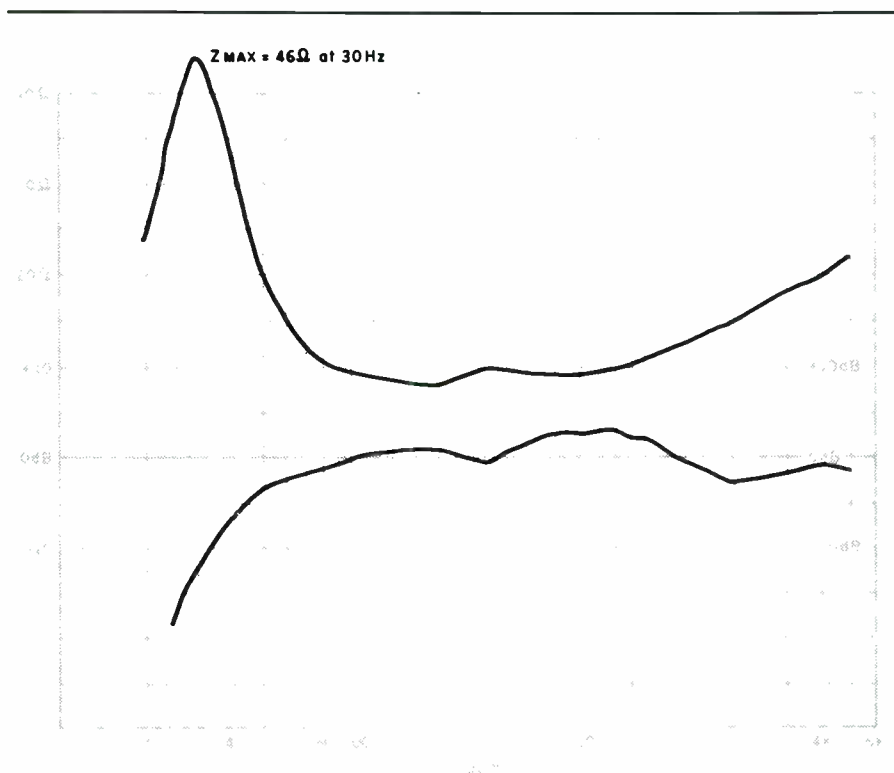

**FIGURE 1:** Impedance and frequency response curves for the Audax HD20B25H-4C12 Bextrene woofer.
**PERFORMANCE.** My frequency response and impedance curve measurements for the six tested drivers are shown in *Figures 1* through *6*. I made the frequency response measurements with an ElectroVoice C0-15E omnidirectional condenser microphone placed in the near field. The 8" drivers were mounted in a modified TL-8 enclosure and the 10" units in a TL-10. I corrected for the EV microphone response variations when I drew the graphs. The only exception was the Meniscus Eclipse W1038R 10" woofer. Later I will elaborate on the procedure I used with it. Since all of the 8" drivers were measured with the same microphone the comparisons should be valid. I measured all impedances in free air.